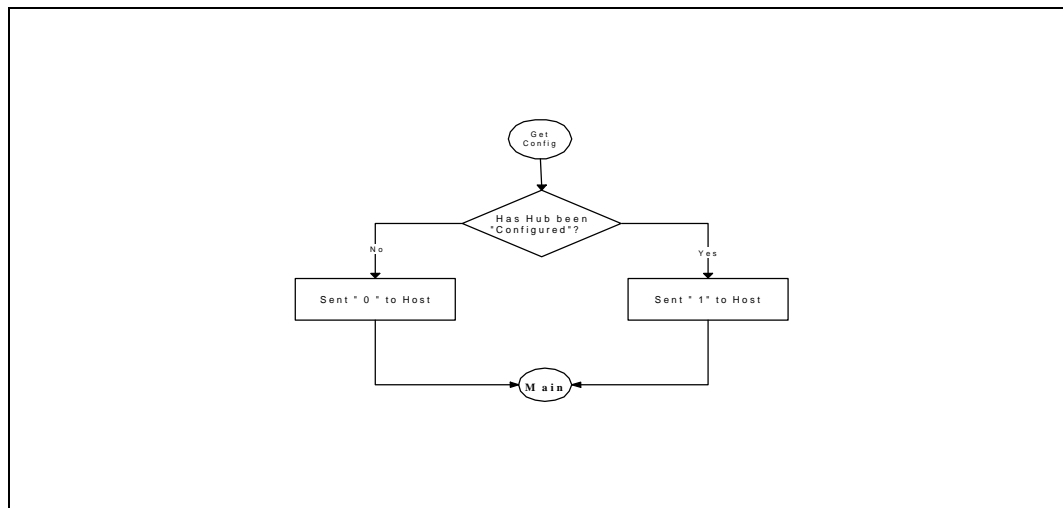

Figure 13: Hub Get Configuration Standard Command
- Get Configuration (Figure 13)